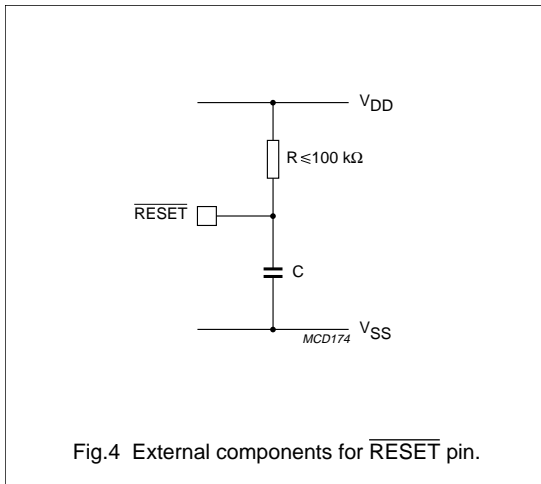

Fig.4 External components for  $\overline{\text{RESET}}$  pin.
- If  $V_{DD}$  has a slow rise time, such that after the time period ( $t_{V_{ref}} + t_d$ ) has elapsed the supply voltage is still below the minimum operation voltage ( $V_{min}$ ), external components are required (see Figs 4 and 7). To guarantee a correct reset operation, ensure that the time constant  $RC \geq 8 \times t_{V_{DD}}$ .